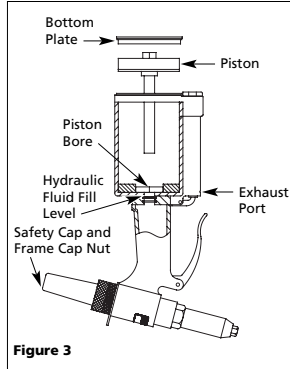

Figure 3
**CAUTION** Cover exhaust port with a towel before applying air pressure. Oil will discharge through the exhaust port (Figure 3) during the first few seconds of operation after an airtool has been lubricated. Failure to cover exhaust port can result in serious injury.
Occasionally, the hydraulic cylinder will need hydraulic fluid. To fill the hydraulic cylinder, follow the procedure outlined below (See Figure 3).